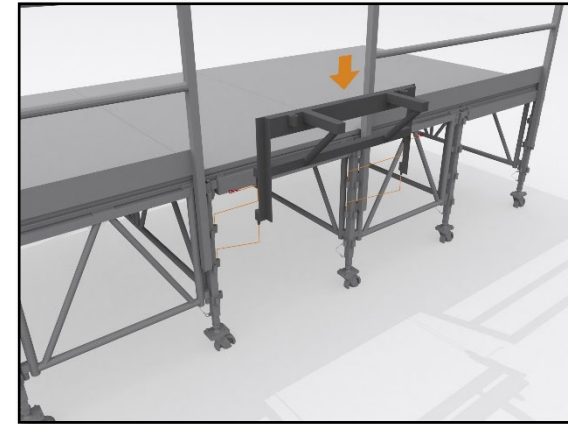

Fig. 37 – Step Subframe
- 9.4.6 The Sub Frame locates on to the mid positions of the Node Post. (Holes 2 & 3). *Fig. 37 – Step Subframe*